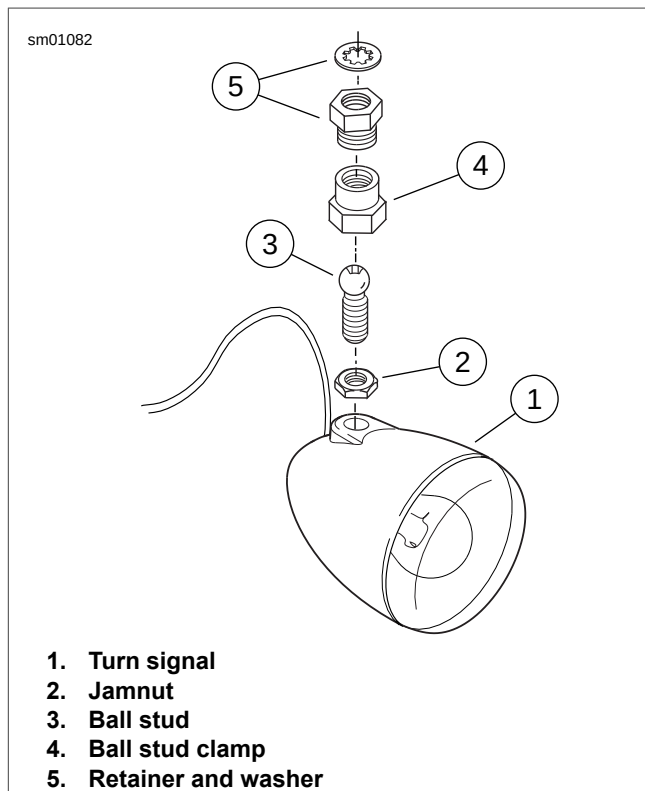

Figure 7-21. Front Turn Signal Mounting
4. See Figure 7-21. Hold retainer and loosen ball stud clamp to remove turn signal.